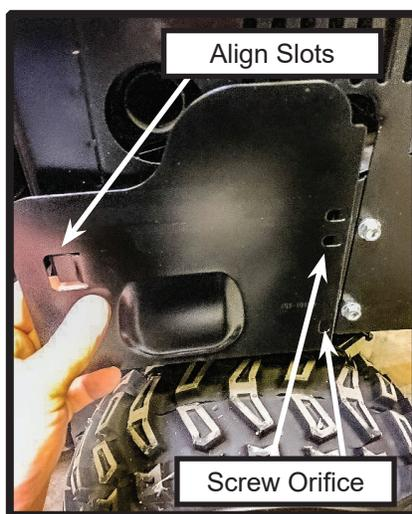

Figure 2
6. Maneuver and Align the slots and orifice of **751-19189** into the Left Hand side of the muffler shield as shown in Figure 2.